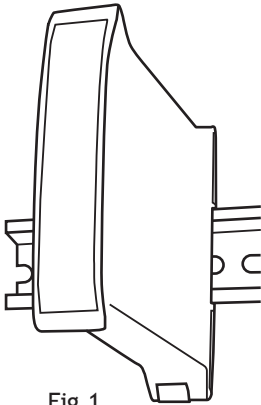

Fig.1
1. The unit should be hooked over the top of the DIN rail and then pushed back into location until the red tab at the bottom of the rear of the unit snaps behind the lower edge of the DIN rail. (Figure 1)